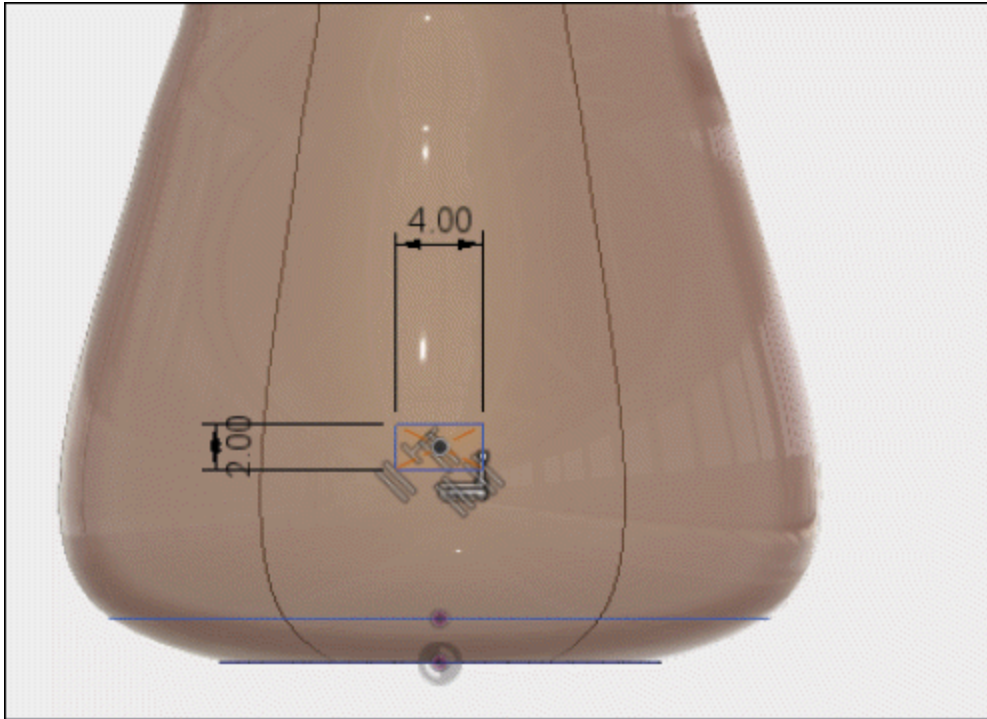

Figure-86. Creating seventh sketch
- Create the sketch as shown in Figure-86 on newly offset plane.